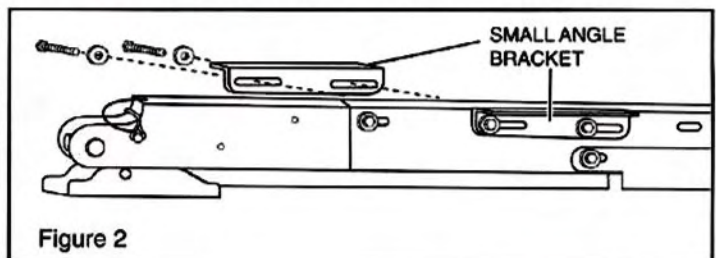

Figure 2
STEP 2. Install two small angle brackets on each leveling jack. Figure 2. Do not tighten the bolts. Balance the leveling jack assembly on the lift saddle of an automotive floor jack as shown in figure 3. Make sure the side of the leveling jack assembly with the two exposed threaded bolts is facing the rear of the motorhome. Also make sure the travel pins are installed from the rear of the motorhome.